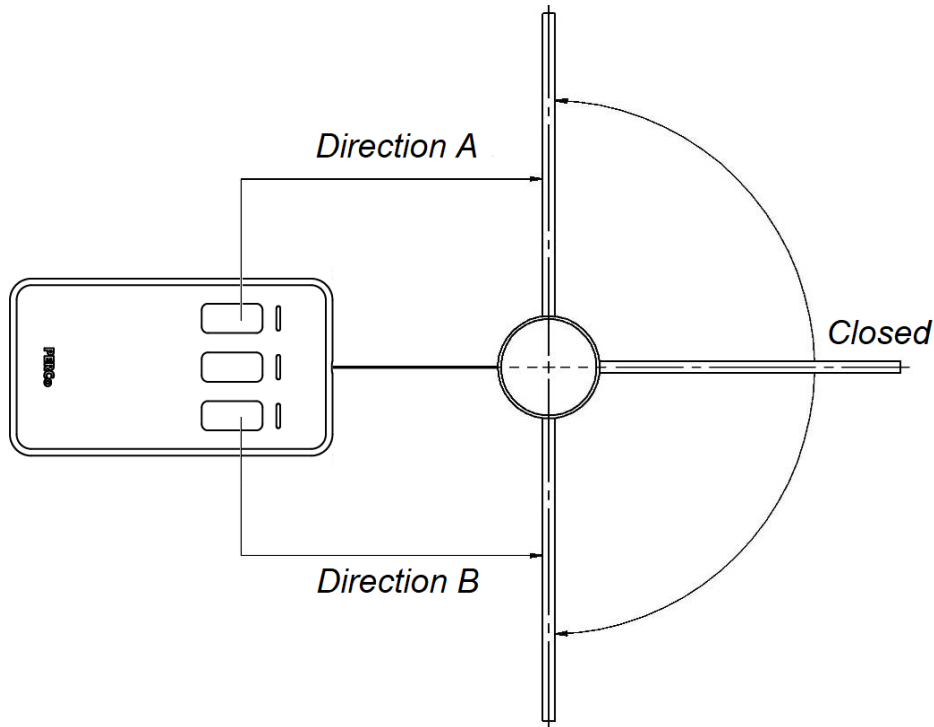

Figure 5. Standard orientation of the RC panel relative to the swing panel's opening direction
- **FireAlarmDir** – connector is designed for selecting the gate opening direction when the *Fire Alarm* emergency unlocking signal is applied. If the jumper is installed, the swing panel opens in the direction A (see Figure 5); if the jumper is removed, the swing panel opens in the direction B. The jumper is installed by default.
The standard orientation of the RC panel in relation to the swing panel's opening direction is shown in Figure 5. The orientation of the RC panel buttons can be changed if necessary; in such case, the RC panel connection shown in Fig. 11 needs to be changed by connecting wires of the RC-panel cable to contacts of the **XT2** terminal block in accordance with Table 2.